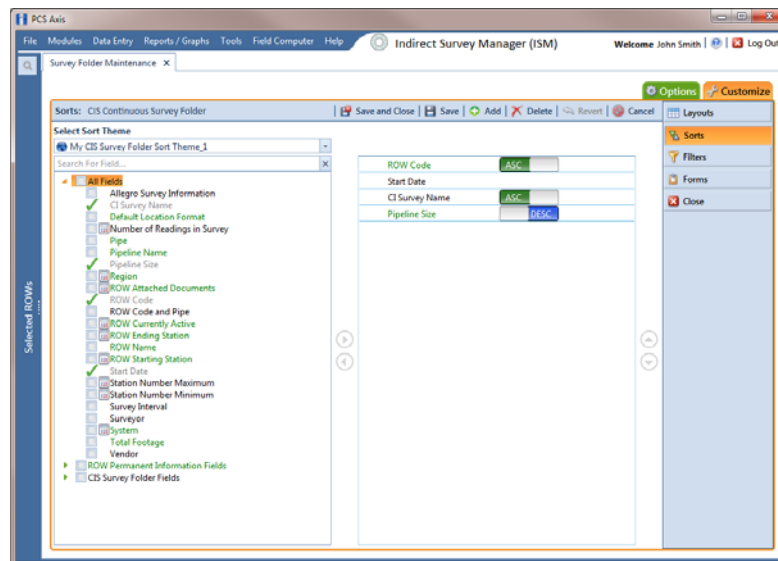

Figure 6-16. Sort Theme
- 9 Click  **OK** to save changes and return to the *Sorts* page (Figure 6-16, page 174).